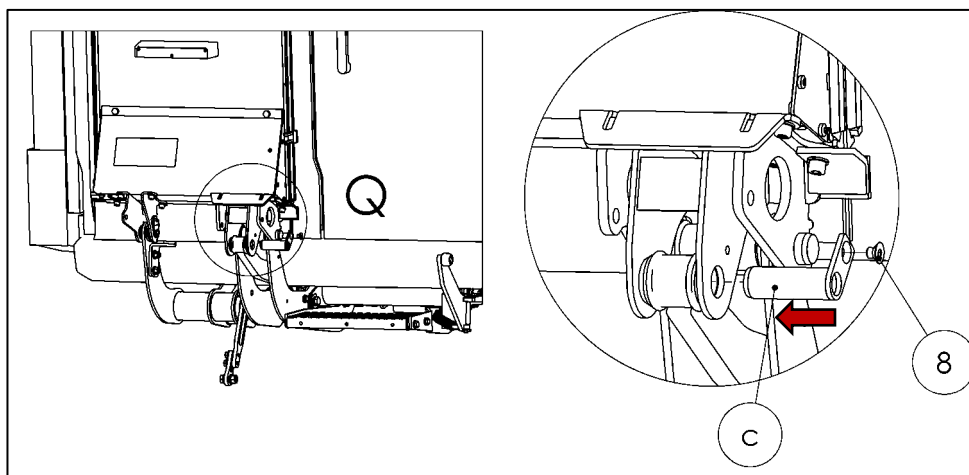

Fig. 57
- Mount the screw (8) from the accessories kit to secure the pin (Fig. 57).